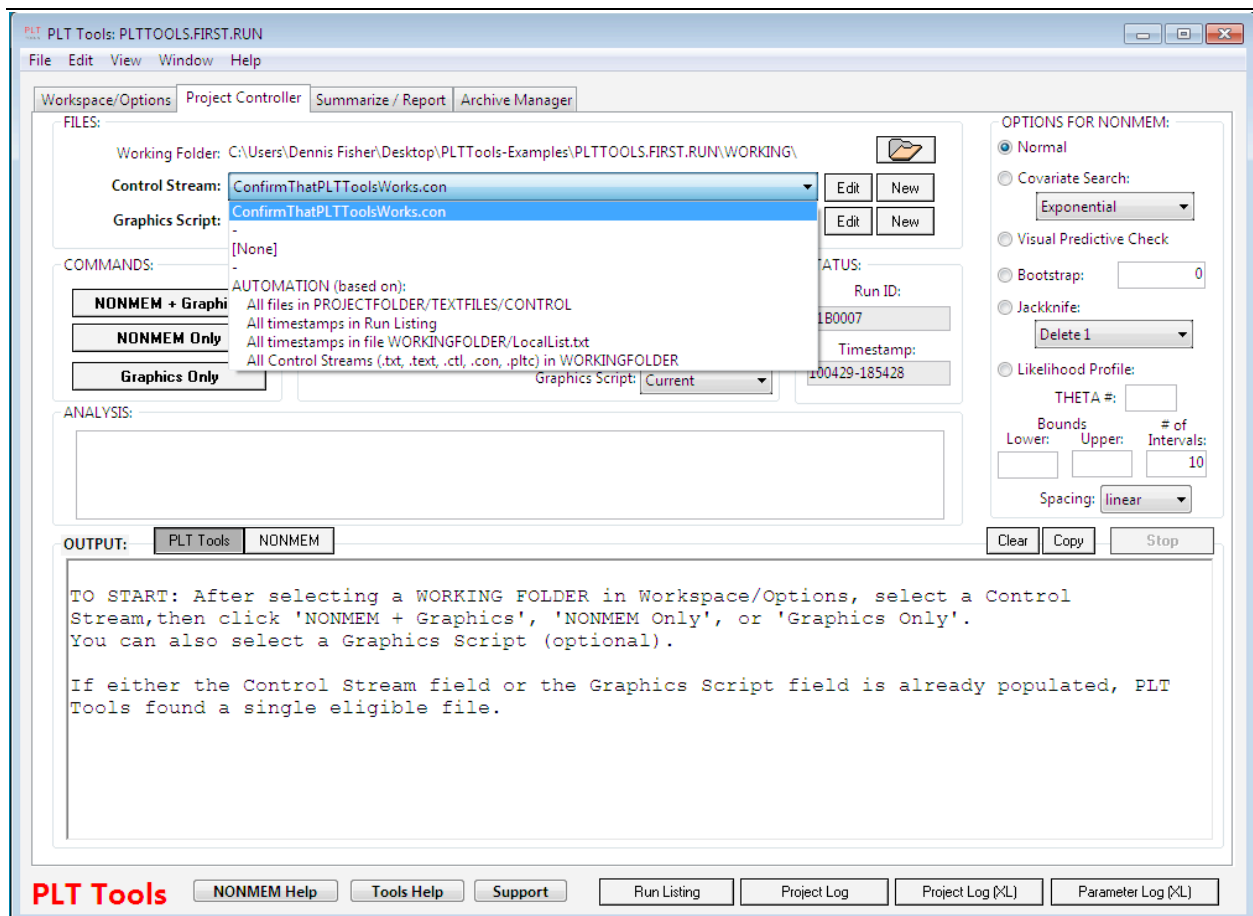

Figure 20. The pull-down menu displays choices for automation.
2. PLT Tools generates the automation script: The pull-down menu for Control Stream in the Project Controller tab (**Figure 20**) includes five entries at the bottom: